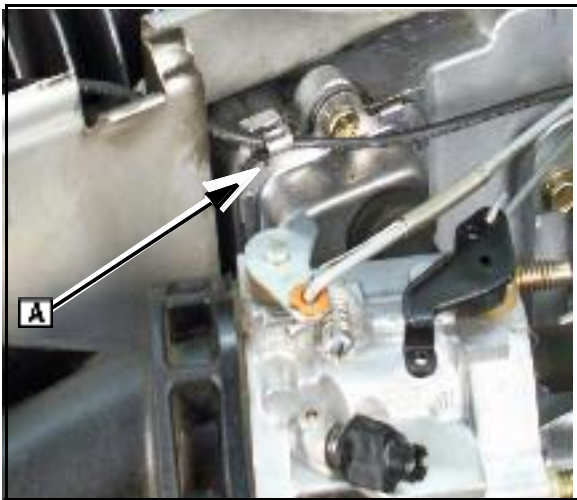

Fig. 51
6. With coil installed and ground wire connected, route wire through small clamp ([A] Fig. 51) to grounding terminal on equipment.